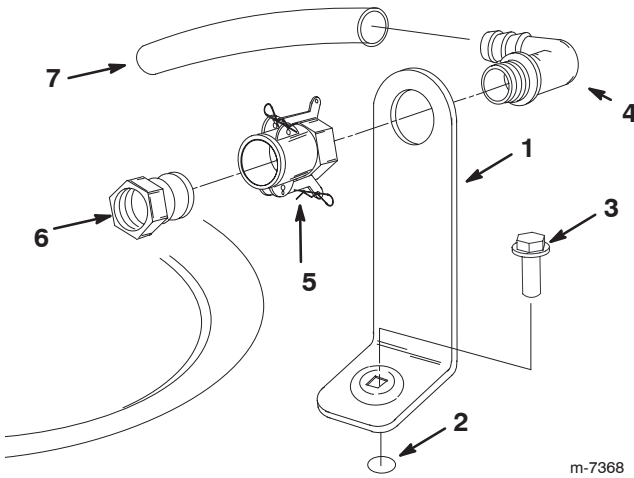

Figure 2
1. Place the fill receptacle bracket over the threaded hole in the tank and secure it with a flange-head bolt (5/16 x 3/4 inch) (Fig. 2).
2. Place the threaded end of the 90 degree elbow fitting through the bracket and thread the quick coupler onto it, securing it to the bracket (Fig. 2).
3. Install the hose adapter into the quick coupler (Fig. 2).
4. Lock the adapter into place by swinging the levers toward the adapter and then secure them with the hairpin cotters (Fig. 2).
5. Install the anti-siphon hose on the barbed end of the 90 degree elbow fitting (Fig. 2).